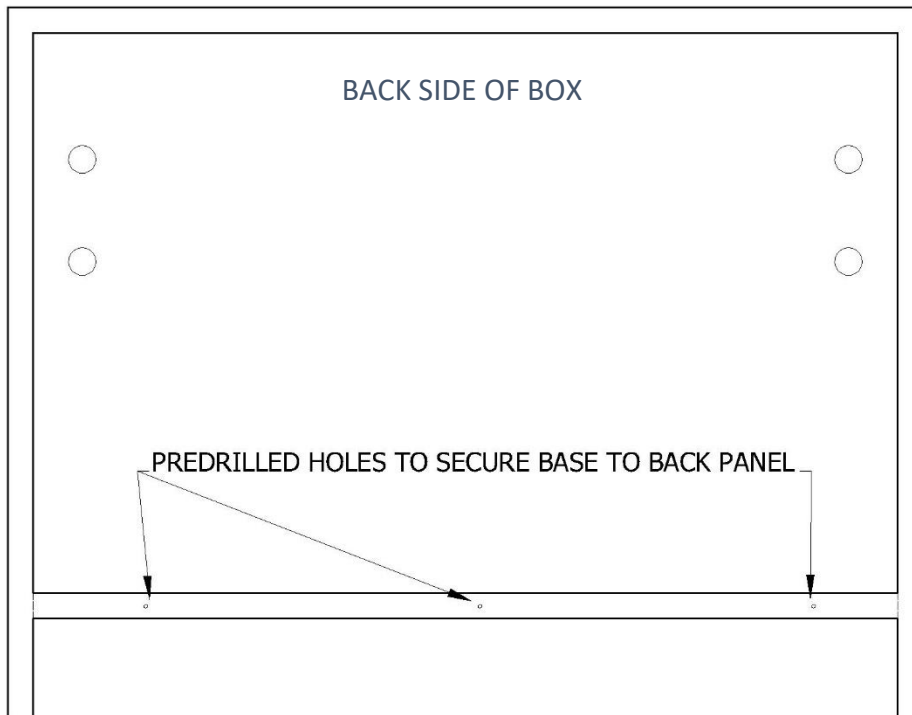

Figure A.5
5. Once locked, use three #6 x 1.25" Phillips Flat Head screws to secure the base and back panels together. (See Fig. A.5)